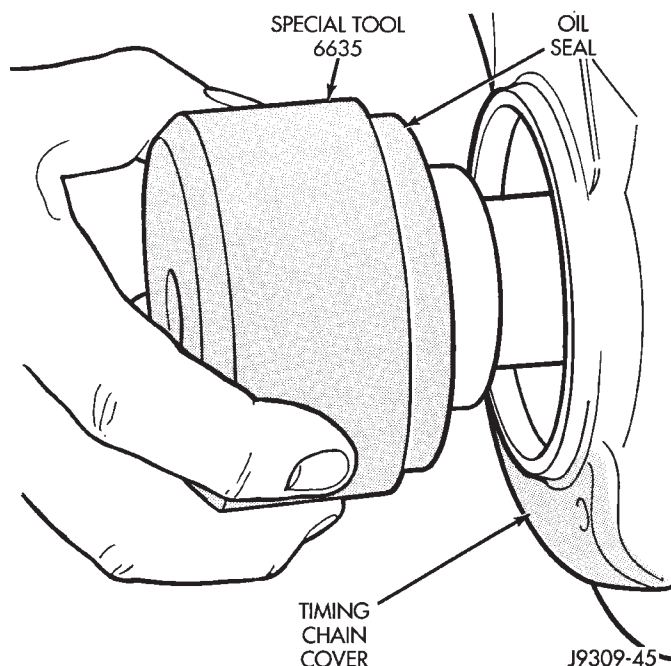

Fig. 43 Position Tool and Seal onto Crankshaft
- (6) Position the seal and tool onto the crankshaft (Fig. 43).